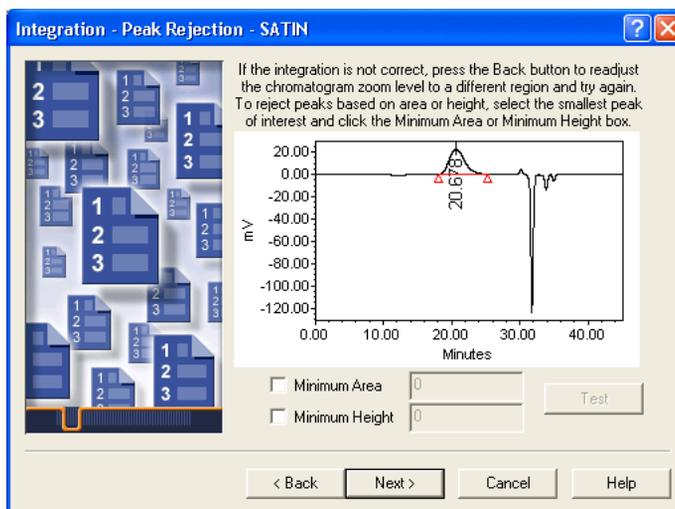

Figure 3-9 Setting Minimum Area and Height
8. Click **Next** to go to the Integration–Peak Rejection page (Figure 3-9). Check your integration. If the integration is incorrect, click **Back**, then reenter start and end time values. If you want to enter values to set integration limits for Minimum Area and/or Minimum Height, enter them on this page. You can leave these values at 0, as they are not needed to correctly integrate the broad unknowns in the GPC_Default project.